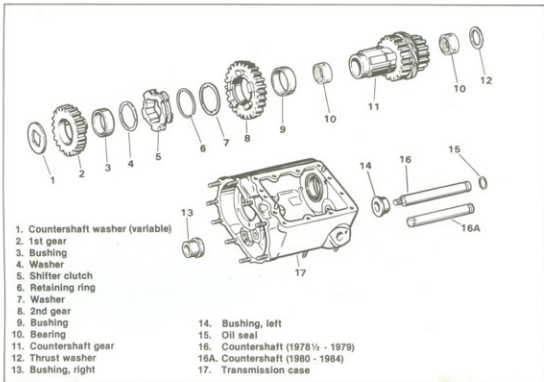

Figure 7-39. Countershaft Assembly — Exploded View
7. See Figure 7-39. Using a piece of wire with the end bent into a hook, remove the countershaft washer.
8. See Figure 7-39. Remove the gear cluster and thrust washer (12) from the transmission case. Slide 1st gear (2), bushing (3), washer (4) and shifter clutch (5) off of the gear (11).
9. See Figure 7-39. Use a sharp-pointed tool and remove the retaining ring (6) from the gear (11). Remove the washer (7), 2nd gear (8) and bushing (9) from the gear (11).
Cleaning, Inspection and Repair (Figure 7-39)
Assembly (Figure 7-39)